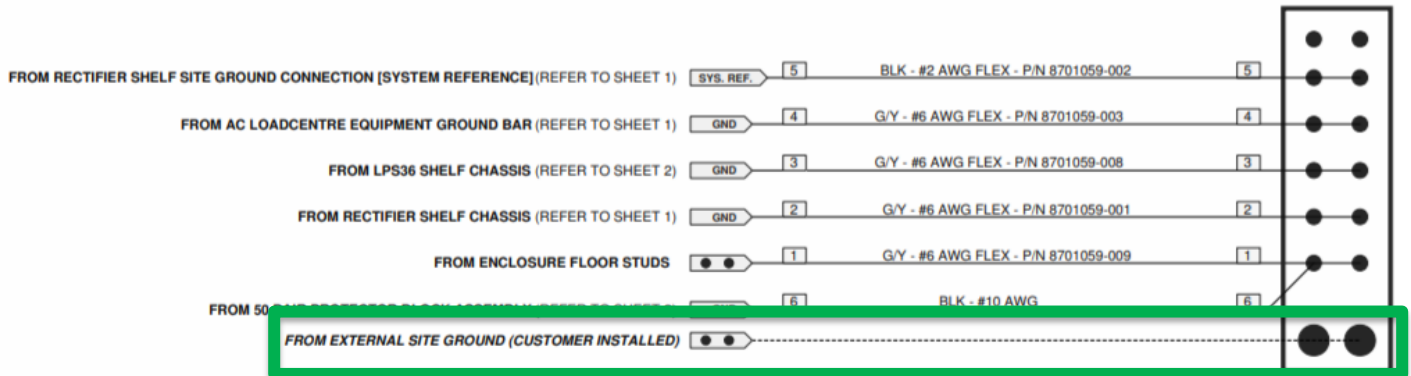

Figure 2 – TE33-1820 RPN Enclosure Master Ground Bar Wiring
2. Route a length of #6 AWG tinned solid copper conductor from a junction point with the VGR at a location below the cabinet to the Enclosure MGB, located on the right-side wall. Connect the length of conductor to the VGR via an irreversible compression connector or exothermic weld and connect the other end to the Enclosure MGB using a suitable two-hole compression lug. The enclosure MGB accepts a two-hole lug with 3/8" holes on 1" centers (refer to Figure 2).